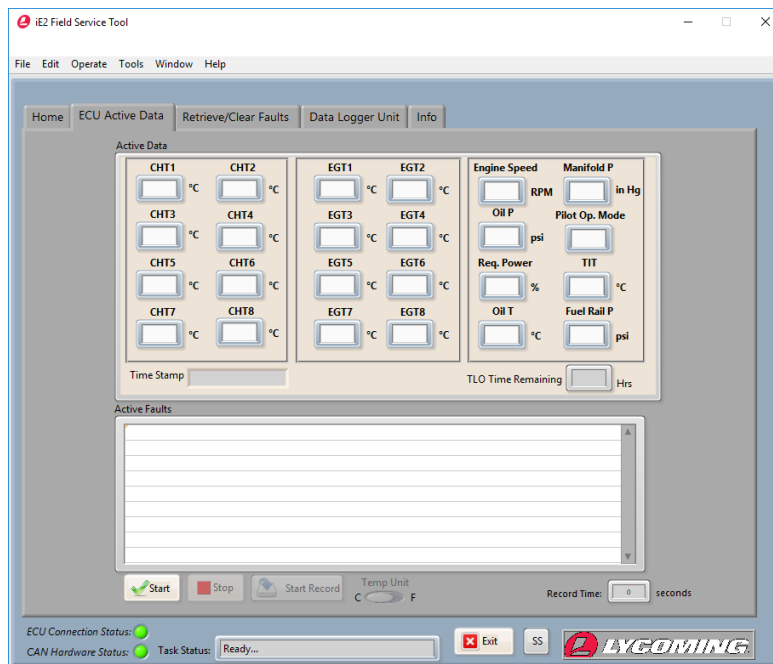

Figure 6
2. Click on the ECU Active Data tab (Figure 6).
3. Click the **Start** button on the “ECU Active Data” screen (Figure 6) to display active faults data from the ECU.